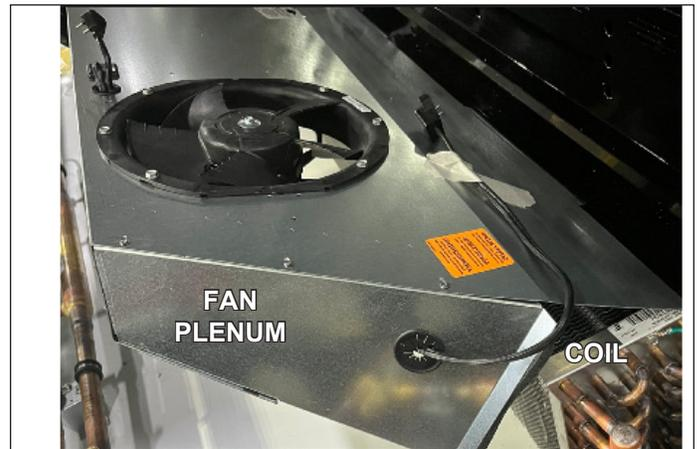

Fig. 30 Single-piece fan plenum and coil cover
- Lift the fan plenum to gain access to the coil for cleaning and maintenance (Fig. 30).